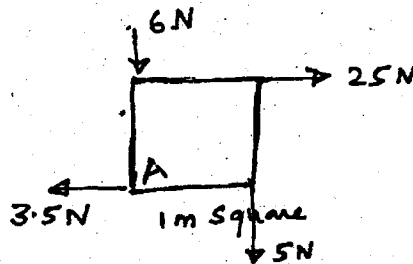

Fig. 5
- (b) (i) State and prove Varignon's theorem. (6)
- (ii) Find the magnitude and direction of a single force P which keeps the system shown in Fig. 5 in equilibrium (The position of the force from the point A) (10)